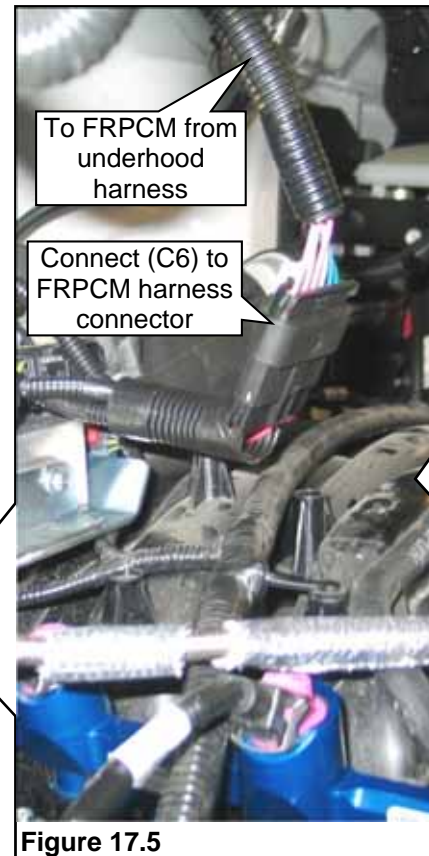

Figure 17.5
7. Make the electrical connection of the FRPCM (C6) to the FRPCM. **Figure 17.5.**